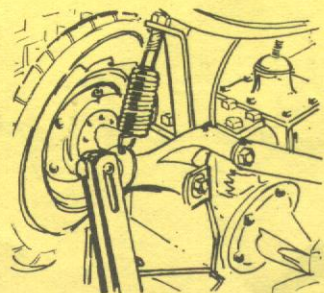

Figure 4
Step 5: Extend spring bolt through hole in spring bracket, attach nut. For normal operation, nut should be tightened half way on bolt thread. You may adjust spring tension by tightening or loosening this nut. Attach lift arms to lift rod assembly (see Fig. 4).